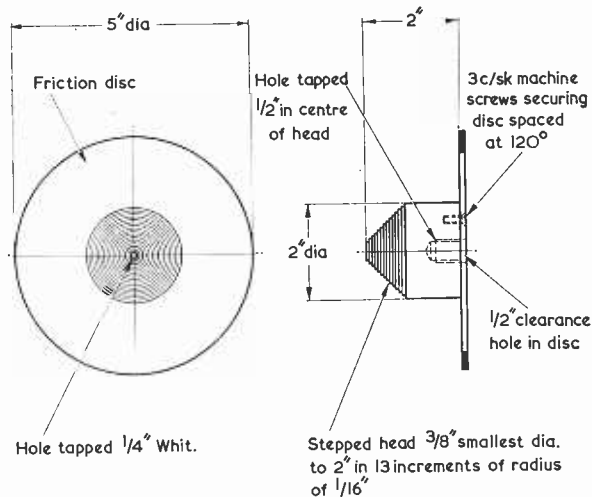

Fig. 4. Front and side views of the head and friction disc assembly
25. Unsolder the existing connections at the pedal potentiometer. Next check the position of the potentiometer tags. If these project, generally, in the direction of the jack socket, as shown in Fig. 4(a), the potentiometer is mounted in the correct position for Wah-Wah operation. If the tags project directly upwards, as in Fig. 4(b), the potentiometer bush locking nut should be
loosened and the potentiometer rotated, with the pedal fully closed, to the position shown in Fig. 4(a). This adjustment is necessary because, for best Wah-Wah effect, the potentiometer should insert zero resistance into circuit when the pedal is closed.
The winding head and friction disc assembly is illustrated in Fig. 4. The head was turned from a piece of 2in. round mild steel with a stepped profile to accommodate the inside dimensions of a number of different sized formers. There is no reason, however, why the head should not have a straight taper of 45° or so, should this be preferred. The widest diameter of the head is drilled and tapped $\frac{1}{4}$ in. to take the winding spindle. To this end is also secured the friction disc which consists of a circular disc of 12 s.w.g. mild steel with a $\frac{1}{4}$ in. clearance hole in its centre. The disc is secured to the head by three countersunk machine screws.